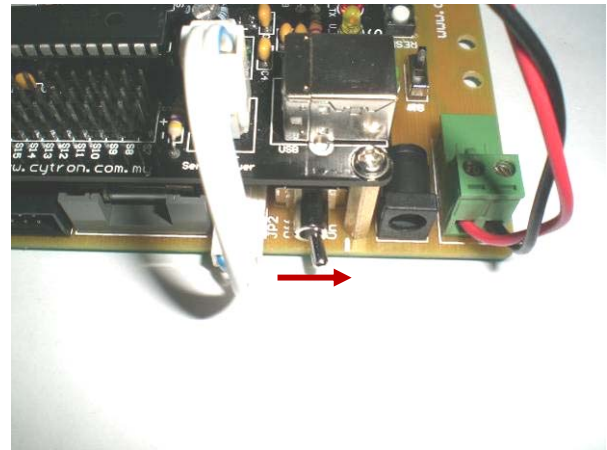

Figure 26
- III. Turn on the S2 switch of the circuit as shown in figure 26.